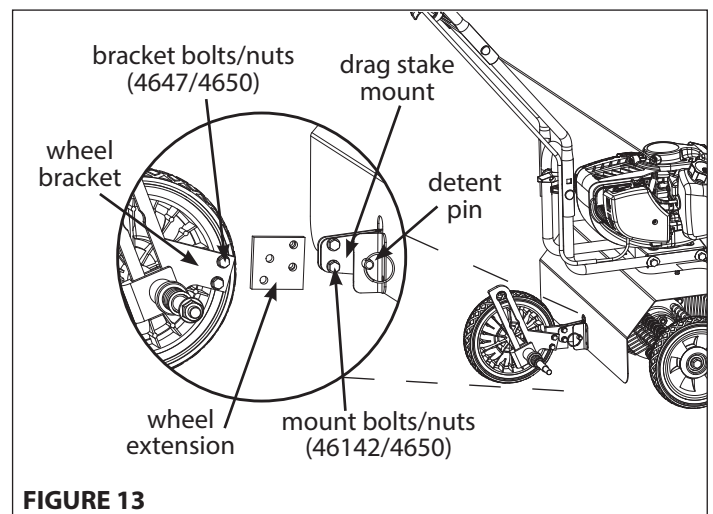

FIGURE 13
2. Unscrew mount bolts/nuts that connect the wheel bracket to the drag stake mount and set wheel bracket aside. **SEE FIGURE 13**
3. Slide dethatcher shield over the unit's tine shield from the rear of the unit and secure using bolts (176) and nuts (400020).
4. Install wheel extension plate (4676) using additional bolts (46142) and nuts (4650). Make sure wheel extension is facing the right direction. (The side, with the two holes flush to the edge, connects to the drag stake mount) **SEE FIGURE 13**